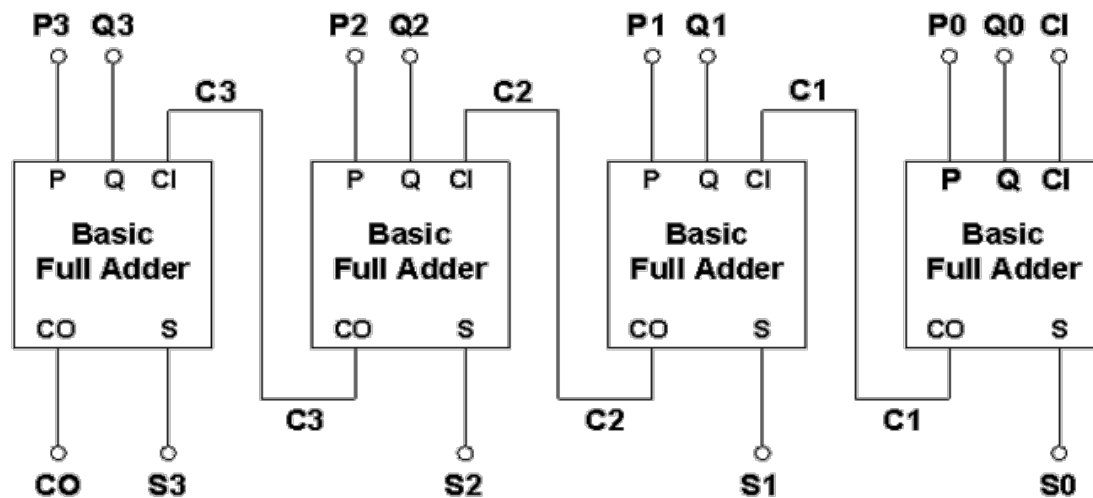

Figure 1. Example: 4-bit parallel adder architecture
1. [10 pts] Pipeline architecture of your 8-bit design, similar to Fig. 1 of 4-bit pipeline adder architecture, except there are **8 pipeline stages**.